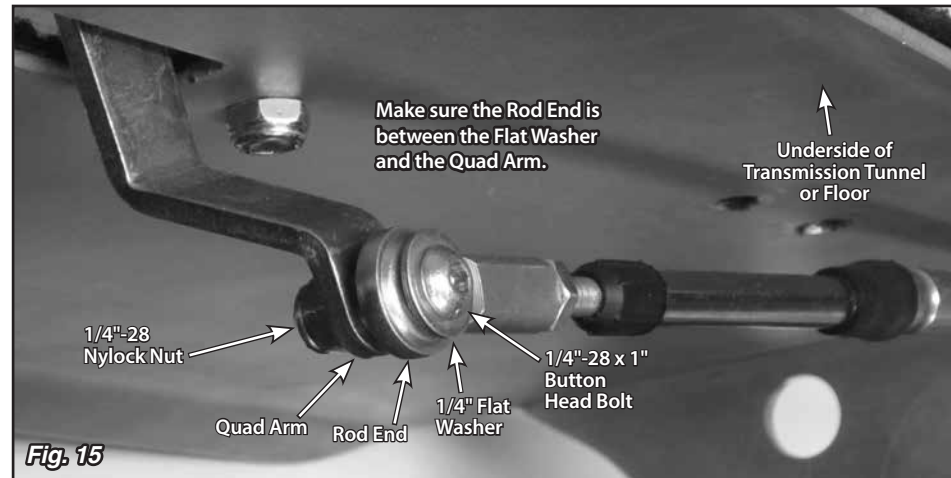

Fig. 15
Step 15: Route the cable up to the Shifter and attach the other rod end to the quad arm using a 1/4"-28 x 1" button head bolt, flat washer, and nylock nut. **Fig. 15** The button head bolt can be installed from either direction, but make sure the rod end is sandwiched between the quad arm and the flat washer. When routing the cable, make sure that it is not touching the exhaust or any moving parts. The cable should be routed as smoothly as possible without any sharp bends.